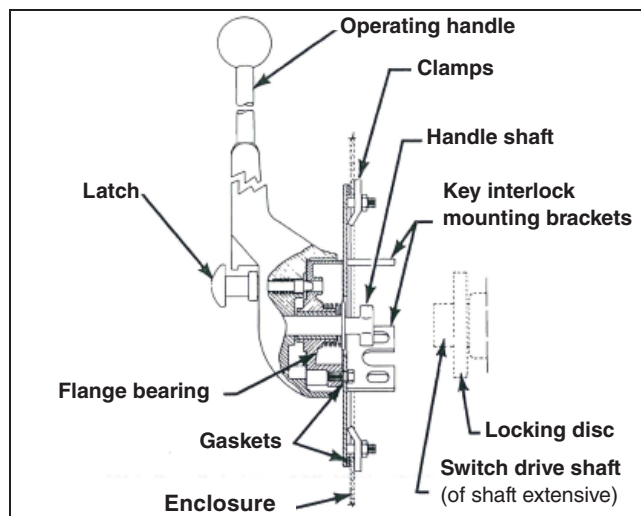

Figure 9. A direct-coupled handle. (For clarity, the switch drive shaft is shown displaced to the right.)
STEP 4. With the operating handle in the **Closed** position (see erection drawing), place the handle assembly against the opening in the enclosure, engaging the handle shaft with the switch drive shaft (or shaft extension). See Figure 9 on page 17. Position the handle mounting plate so the holes for mounting the interlocks are toward the front of the enclosure. Clamp the handle mounting plate to the enclosure as shown on the erection drawing.